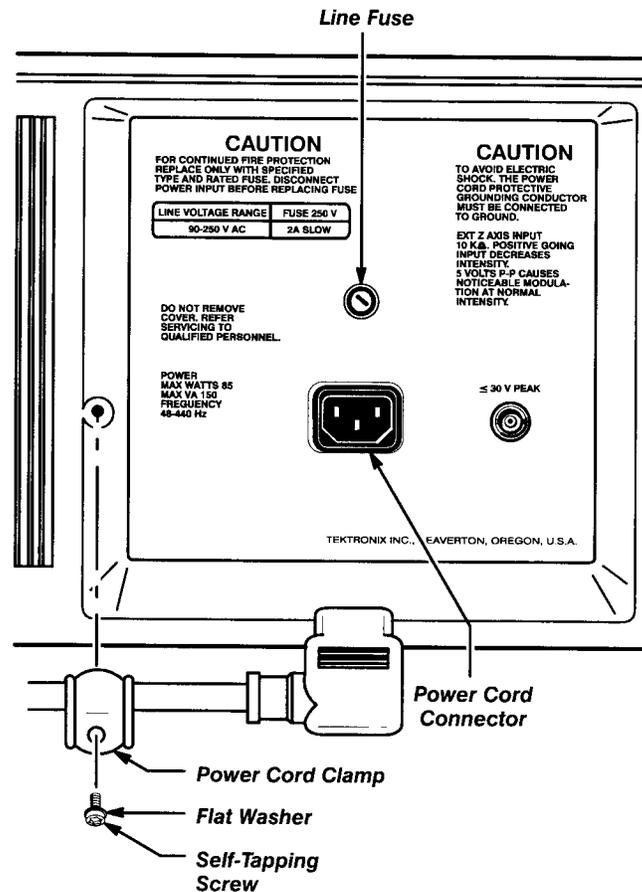

Figure 1-1: Installing the Power Cord
- Step 1:** Connect the proper power cord to the back of the instrument as shown below in Figure 1-1.